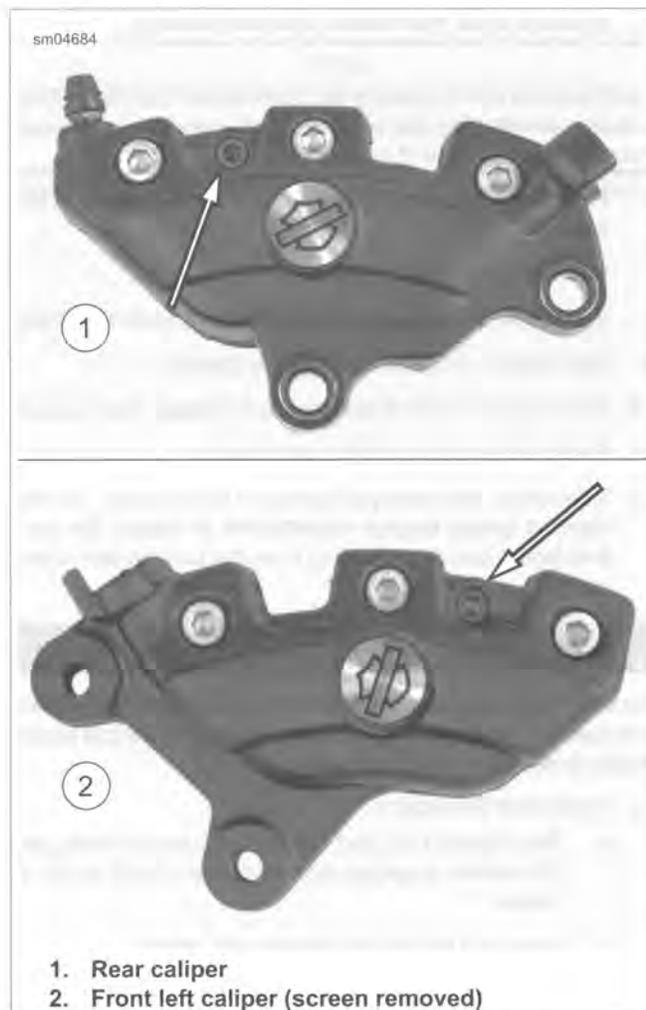

Figure 1-31. Brake Caliper Pad Pin
9. See Figure 1-31. Remove pad pin (metric).